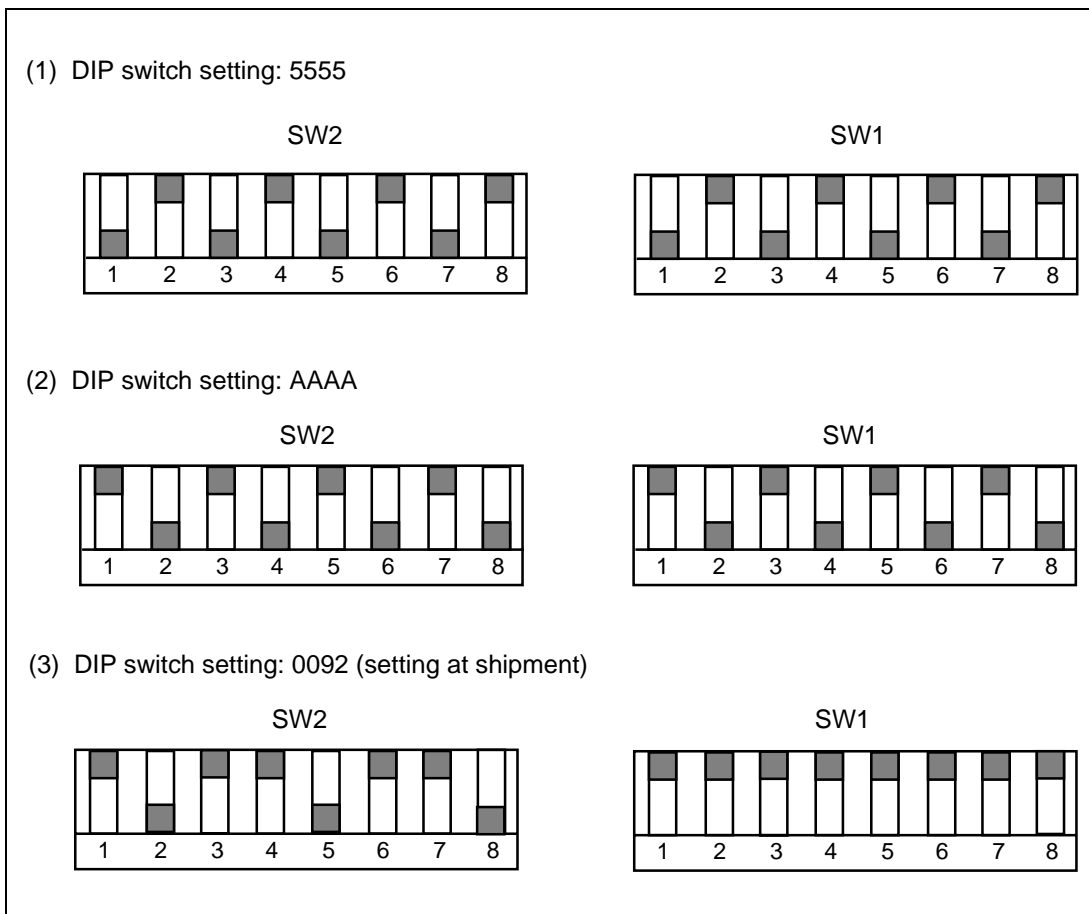

Figure 4.6 DIP Switch Settings
(3) After setting the DIP switches as shown in figure 4.6 (1), enter Y.
(4) If no error occurs, the following message is displayed:
(6) After setting the DIP switches as shown in figure 4.6 (2), enter Y.
(7) If no error occurs, the following message is displayed:
(9) After setting the DIP switches as shown in figure 4.6 (3), enter Y.
(10) If no error occurs, the following message is displayed: